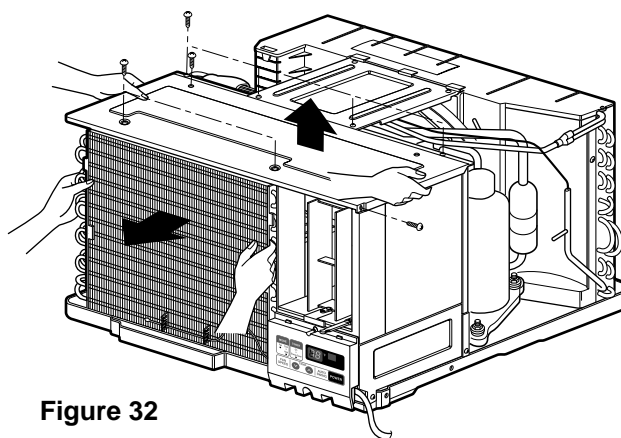

Figure 32
7. Re-install the components by referring to notes. (See Fig. 32)
Figure 32 is a brief description of the important components and their function in what is called the refrigeration system. This will help you to understand the refrigeration cycle and the flow of the refrigerant in the cooling cycle.